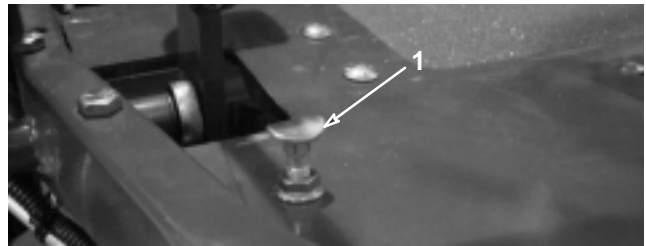

Figure 53
To obtain maximum transport speed, put the functional control lever in the transport position and press down on the traction pedal. If the pedal contacts the stop (Fig. 53) before tension is felt on the cable, an adjustment is required:
1. Put the functional control lever in the transport position and loosen the locknut securing the pedal stop to the floor plate (Fig. 53).